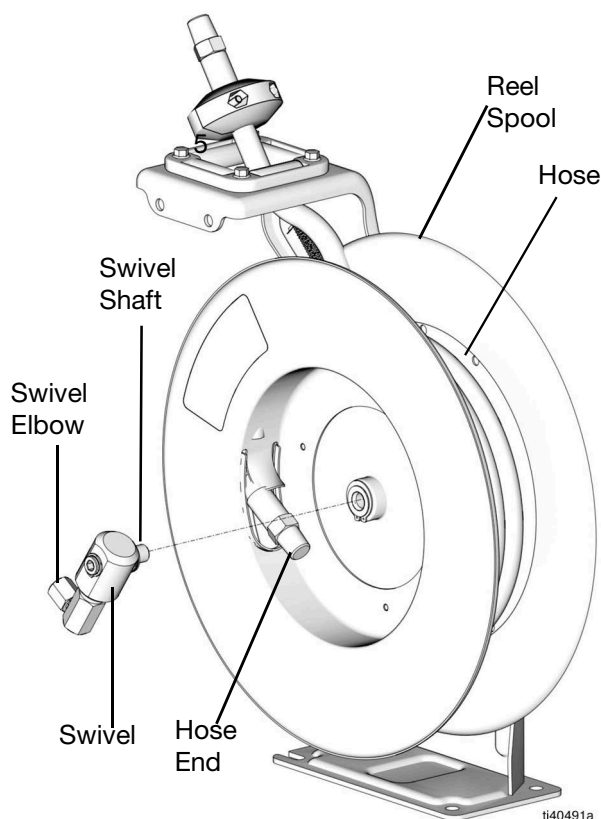

FIG. 1
2. Reduce all spring tension by removing loops of hose from the reel spool. Count the number of loops removed so the same number can be added back after repairing (FIG. 1).
3. Disconnect the hose from the swivel elbow (FIG. 1).
4. Using temporary plugs and caps, plug the swivel assembly being replaced, and cap the hose. This is recommended for liquid applications to minimize spills (FIG. 1).
5. Unscrew the swivel shaft to remove the swivel from the spool shaft (FIG. 1).
7. Attach the new swivel to the spool shaft (FIG. 1).
9. Connect the hose to the swivel elbow (FIG. 1).